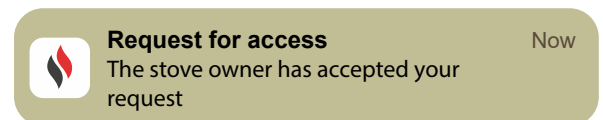

Fig. 8.35
- when the access request is accepted by the “owner” account, a notification will be sent to the new account pending confirmation (Fig. 8.35).